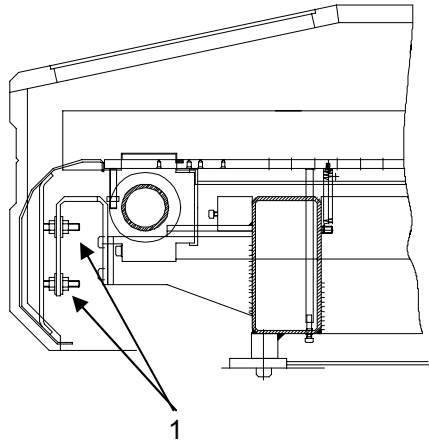
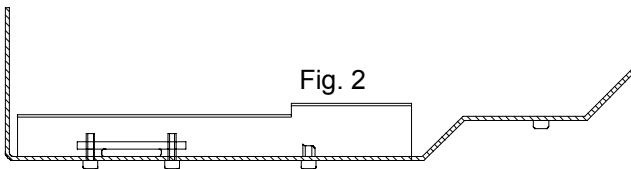

Fig. 1
Fig. 2
1. Remove front cover (Fig. 1/1) and the protective cover below X-drive (Fig. 2).